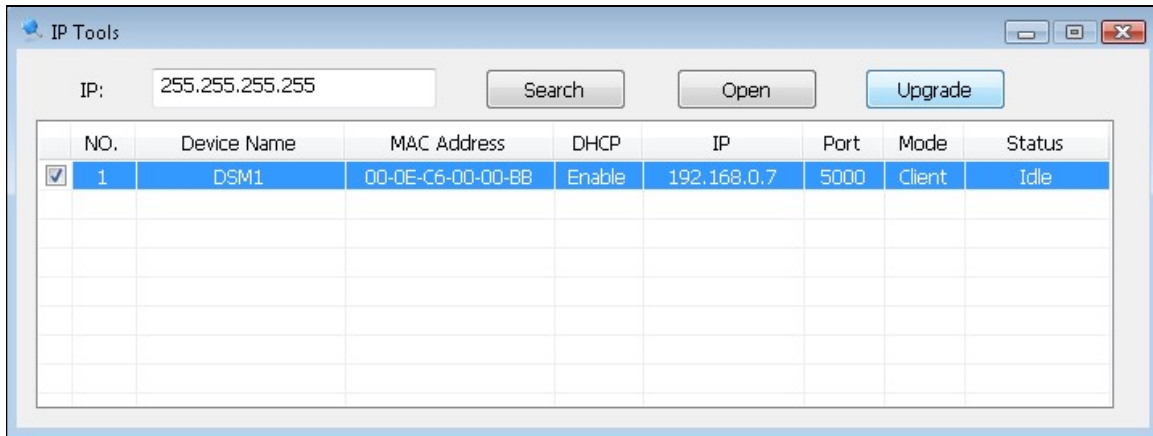

Figure 38
3. Launch the IP Tools application as referenced in Section 5.7, and locate the ObserverIP on your network. Reference Figure 38. Select the Upgrade button to begin the firmware upgrade. As shown in this figure, the IP address of the ObserverIP is 192.168.0.7. Make a note of your IP address (your results will vary).